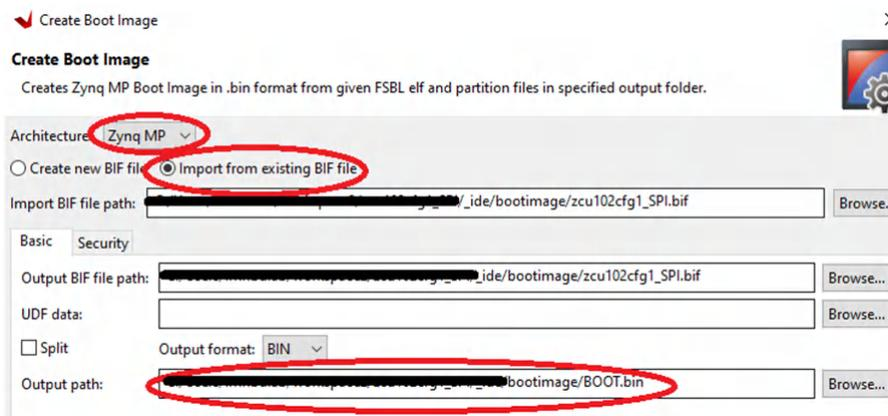

Figure 13-2. Boot Image Input and Output Pathnames
2. Select *Zynq MP* from the *Architecture* menu and select *Import from existing BIF file* option (see Figure 13-2). The *Output path* shows the file location of the *BOOT.bin* to be generated.
The above step generates the *BOOT.bin* in the output path as selected in Figure 13-2.